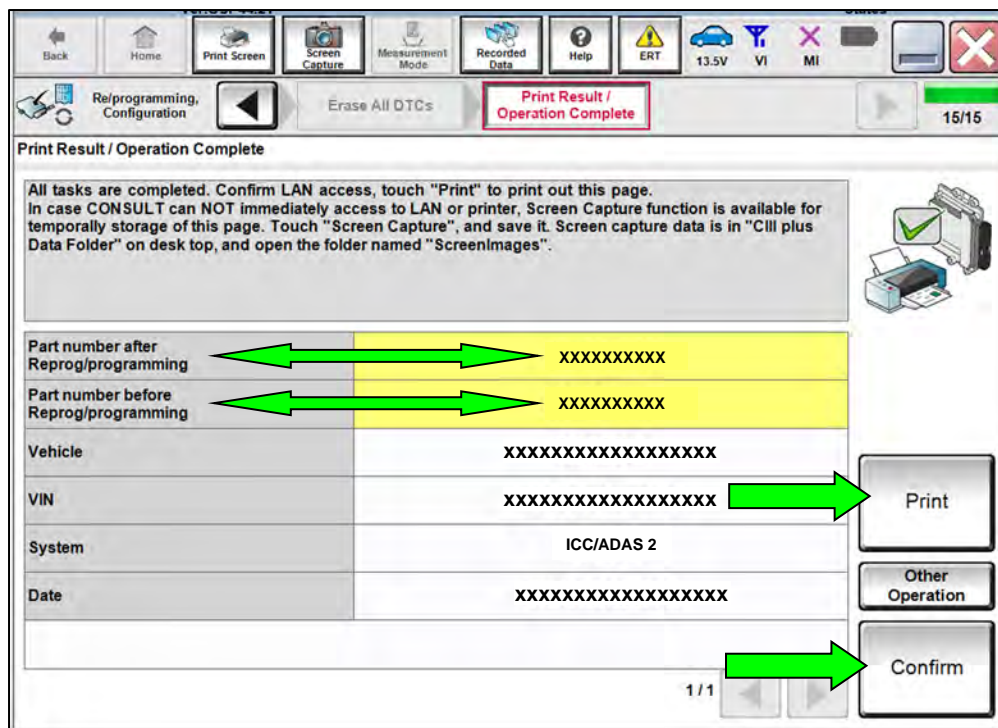

Figure 20
**HINT:** When the entire reprogramming process is complete, the screen in Figure 20 will display.
- 27. Print a copy of the screen below (Figure 20) and attach it to the repair order for warranty documentation.